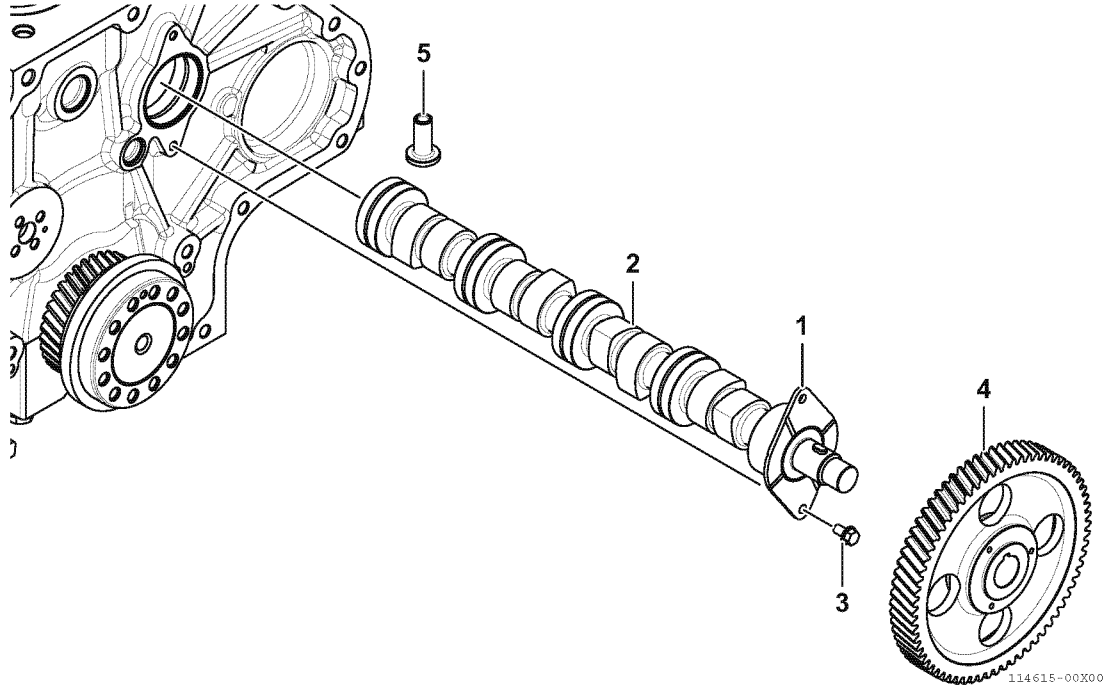

Fig.11-3
1. Remove the two bolts (3, Fig.11-3) retaining the camshaft thrust plate (1, Fig.11-3).
2. Rotate the engine in the engine stand so that gravity causes the tappets (5, Fig.11-3) to drop away from the camshaft lobes.
3. Slowly pull the camshaft assembly (1, 2, 4, Fig.11-3) straight out from the engine being careful not to damage the camshaft bearings.
6. Remove the camshaft drive gear (4, Fig.11-3) only if the gear or camshaft require replacement.